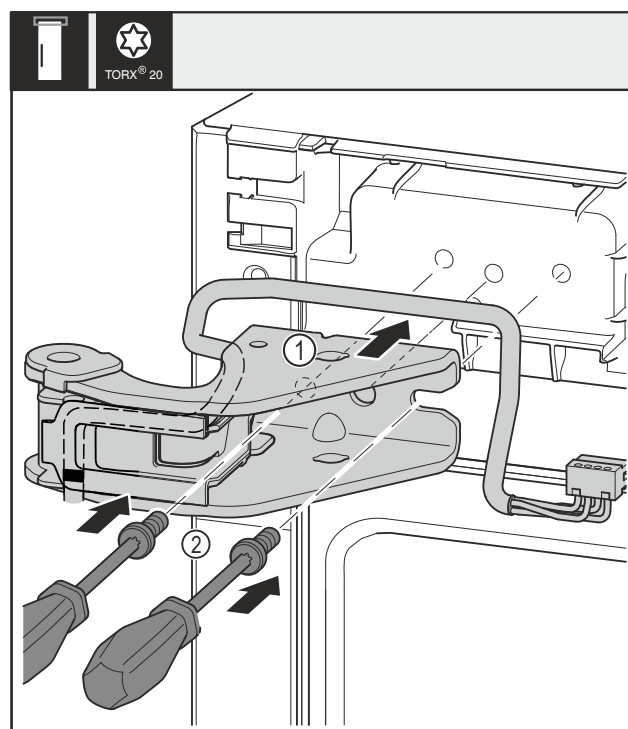

Fig. 30
- ▶ Attach the top swap bearing block Fig. 30 (1).
- ▶ Insert and tighten the screws Fig. 30 (2) with a screwdriver.